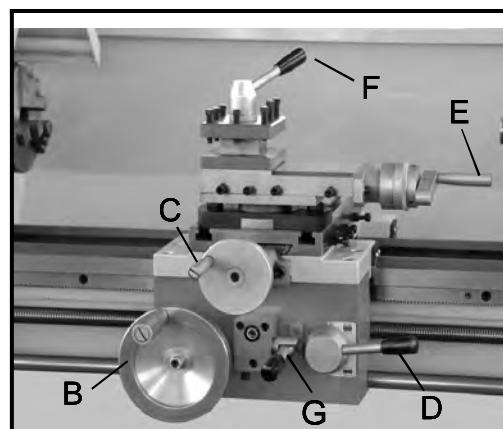

Fig. 15
10. Longitudinal Traverse (B, Fig. 15)
11. Cross Traverse Handwheel (C, Fig. 15)
12. Half Nut Engage Lever (D, Fig. 15)
13. Compound Rest Traverse Lever (E, Fig. 15)
14. Tool Post Clamping Lever (F, Fig. 15)
15. Feed axis Selector (G, Fig. 15)
Push lever (G, Fig.15) to the left and down to engage cross feed Pull lever to the right and up to engage longitudinal feed.